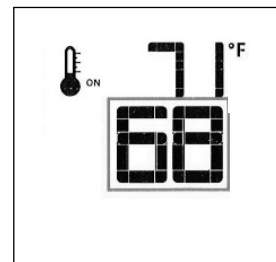

Figure 71. Change Set Temperature.
- To adjust the Set Temperature, press the Up or Down Arrow Keys until the desired Set Temperature is displayed. Fig. 71.